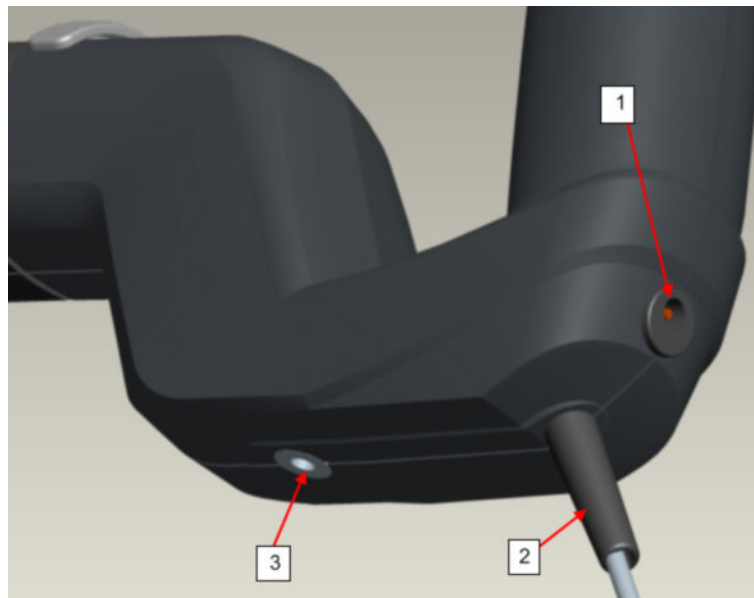

Fig. 3-3: R&S HE300 models 02/03, R&S HE300UK: Operating elements on the supply and display unit (detailed view) .
An external voltage supply can be connected to connector EXT. POWER (voltage range 7 V to 9 V) located on the handle of the supply and display unit, see figure 3-3. The batteries need not be removed when an external voltage supply is connected.
The cable to the receiver (see figure 3-3, no. 2) is a sensitive RF cable. Bending in excess of the specified cable bending radius of 50 mm will cause permanent damage to the device.
- Feeding supply voltage to the unit: via connector EXT. POWER (voltage range 7 V to 9 V) on the handle of the supply and display unit (see figure 3-3, no. 1). There is no need to remove the batteries when connecting an external voltage supply.